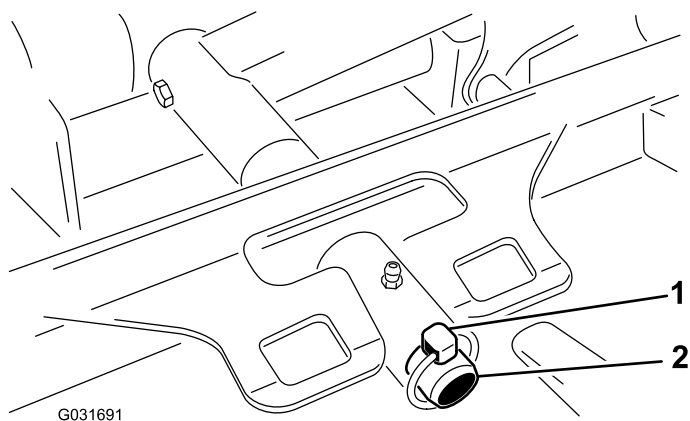

Figure 64
3. Remove the lynch pin securing the deck-carrier frame to the lift-arm pivot pin (Figure 64).
3. Slide the deck-carrier frame onto the lift-arm pivot pin and secure it with the lynch pin (Figure 64).